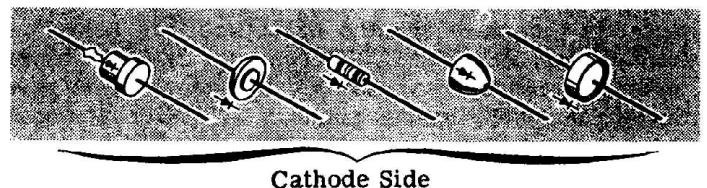

Figure 2-2. Cathode Identification of Diodes
4. Connect the anode terminal of the diode to the red lead marked "C" and the cathode terminal of the diode to the yellow lead marked "E". (See Figure 2-2 for diode lead arrangements. If the diode is marked with a +, this is the cathode terminal). Reset the range switch to read the current on the meter. (See section 3-3). This is the forward current.